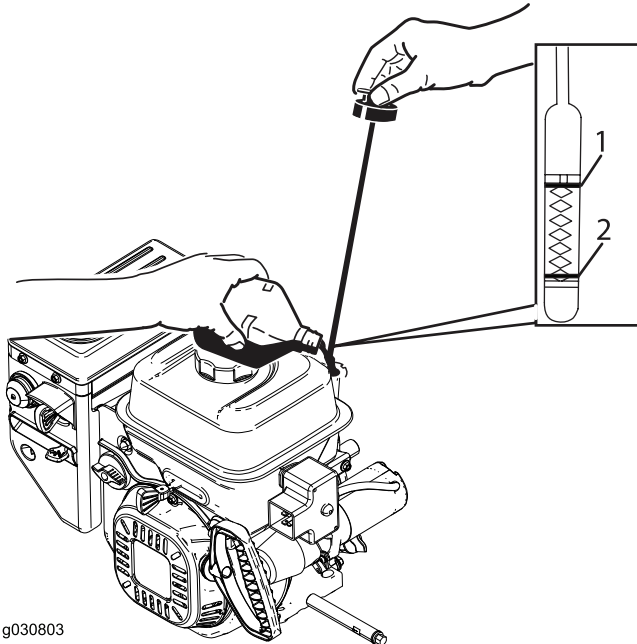

Figure 32
2. Remove the dipstick and check the oil level (Figure 32). If the oil level is below the Add mark on the dipstick, add oil. Refer to Changing the Engine Oil \(page 21\).